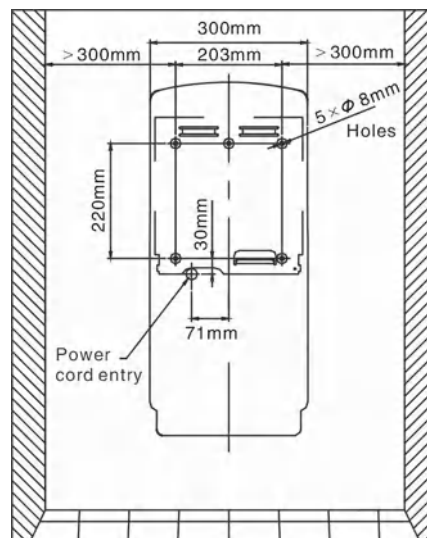

fig.3
2. Place template against wall at desired height (see RECOMMENDED MOUNTING HEIGHTS) and mark locations of 5 mounting holes and power cord entry at knockout location (see fig.3).